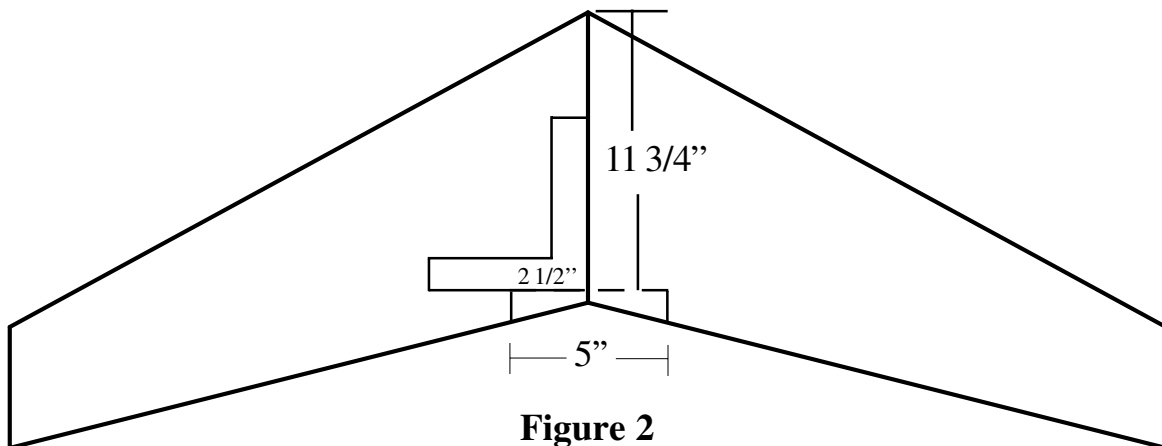

Figure 2
(See **Figure 2**) Measure 11 3/4" from the nose along the center line and make a mark. Use a square to measure 2 1/2" on both sides of the center line. Mark the 5" line and make two lines parallel to the center line from the ends of the line to the trailing edge (TE). Cut along the lines and remove the foam.